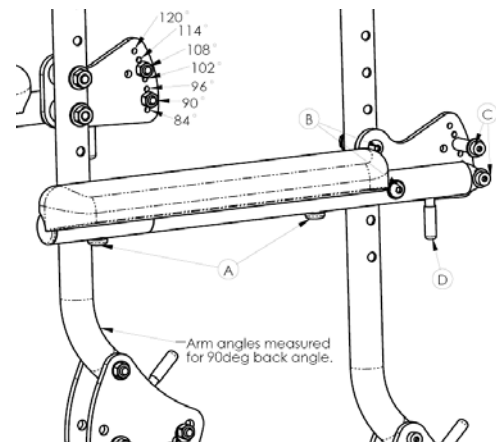

Fig. 2
- a. Pull actuator D shown in Figure 2 towards the front of the wheelchair.
- c. Securely tighten the cantilever arm to the wheelchair with two locknuts and washers (B in figure 2).
- ii. Remove the locknut that secures the locking pin to the arm adjustment plate (C in figure 2).
NOTE: Arm angles are displayed in figure 2 for a back at 90°, they vary by 6°, also the pins cannot occupy adjacent holes (i.e. both 90° and 96°).
- a. Remove fasteners securing the cantilever arm assembly to the back cane (item B as shown in Figure 2).
- a. Remove the mounting screws from the armrest pad (A in Figure 2).